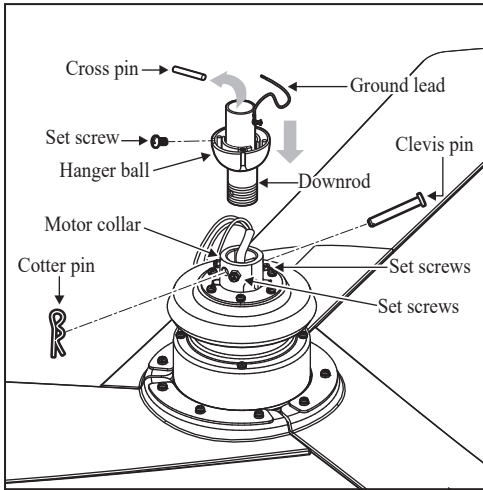

Figure 7
3. Remove the cotter pin and clevis pin, and loosen the two collar set screws from the fan motor assembly collar. (Figure 7)
4. Take out the setscrew located in the hanger ball, lower the hanger ball and remove the cross pin. Remove the hanger ball from the hanger ball/downrod assembly. (Figure 7)
5. Remove the ground lead from the downrod assembly. (Figure 7)